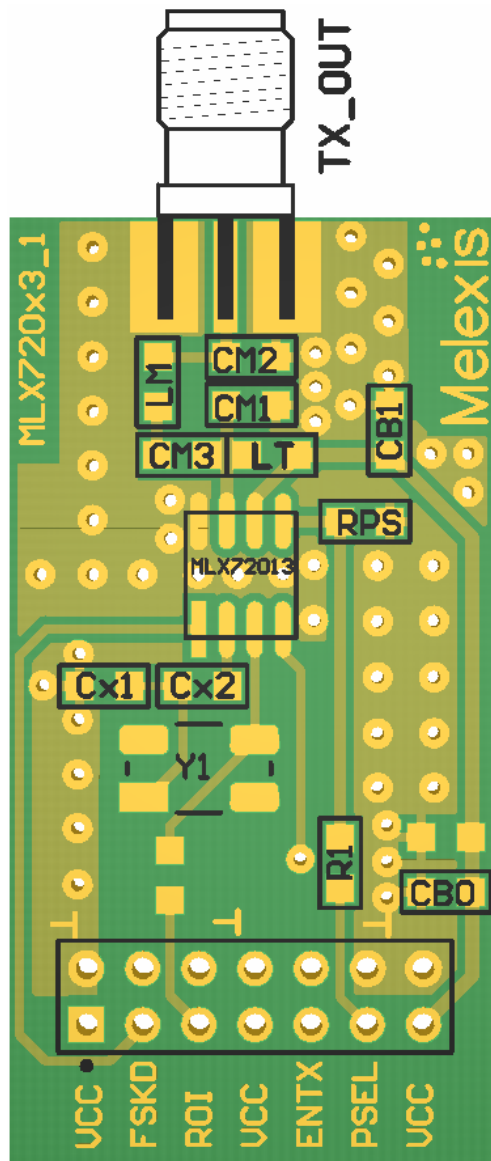

Fig. 7: PCB population
9.1. Board Component Values to Fig. 7